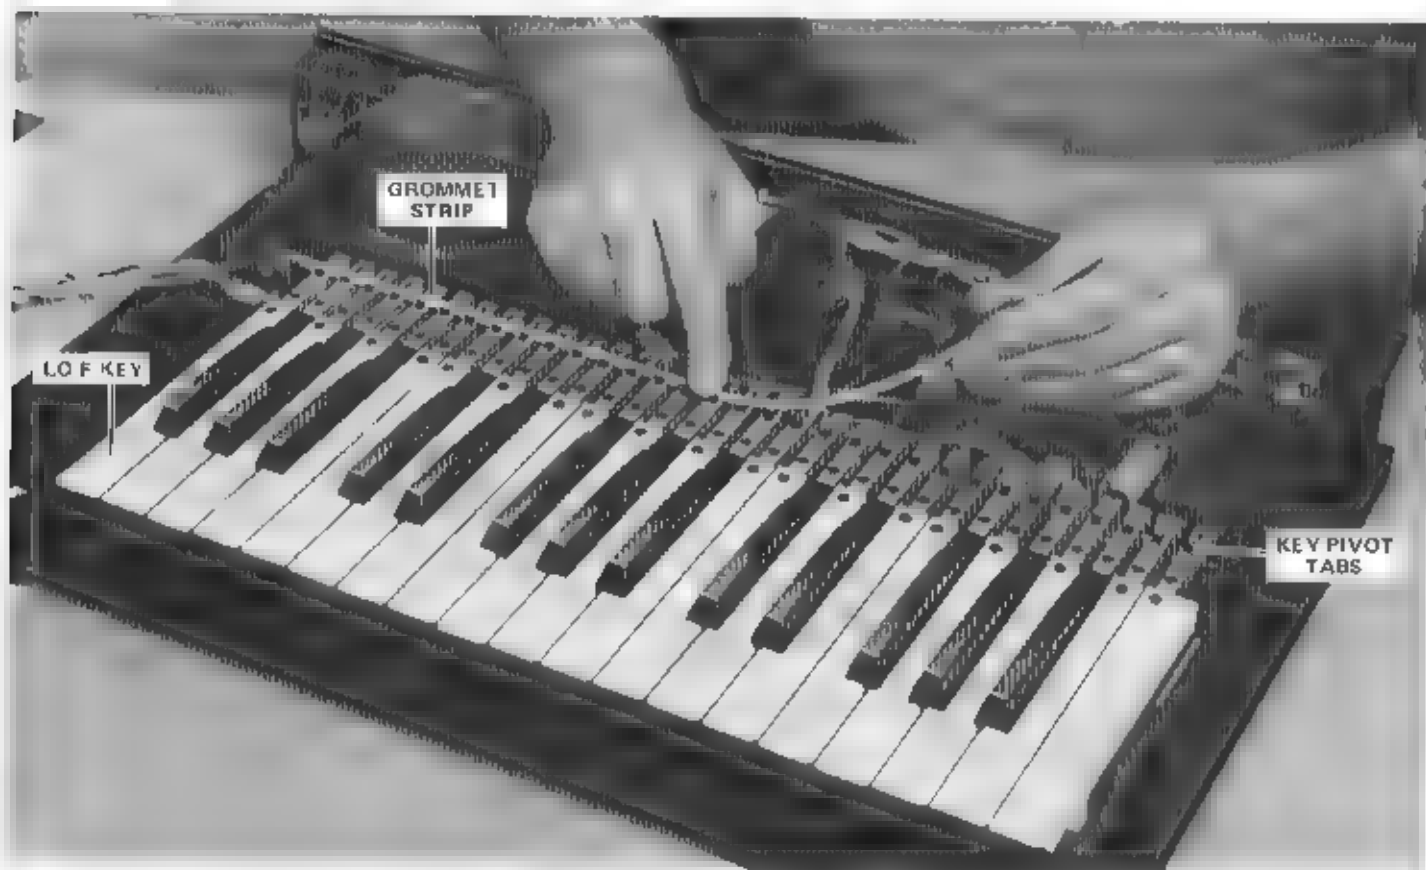

FIGURE 3-5 INSTALLATION OF GROMMET STRIP
g) Several service functions can be performed on the keyboard without removing it from the base. Early units (prior to approximately Serial No. 2500) were built without insulation on the key pivot tabs which caused the keyboard to short out against the main PC board. All such units should have a grommet (916-041636-001, 17-3.4 inch) installed. Press the strip on over the tabs as shown in Figure 3-5.